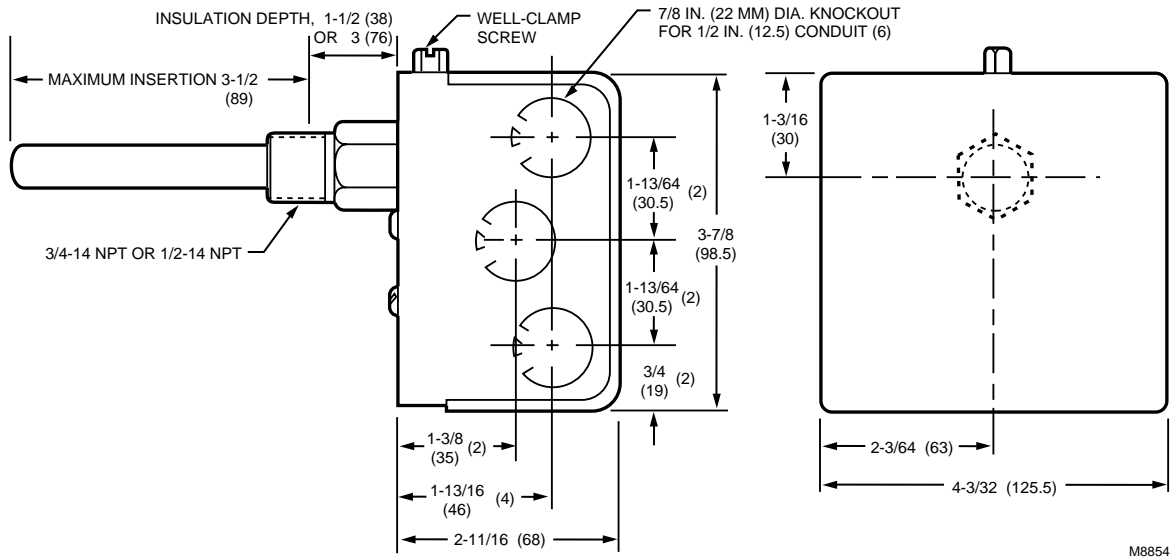

Fig. 1. L4081A,B and L6081A mounting dimensions in in. (mm).
**Mounting Dimensions:** See Fig. 1 and 2.